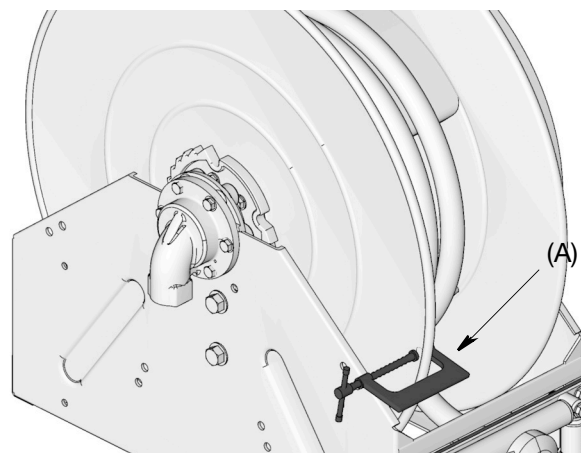

FIG. 13
3. Attach a c-clamp (A) to the reel spool as shown in FIG. 13 to help prevent the reel from unintentionally becoming unlatched and spinning freely.
- Securely attach a c-clamp (A) to the reel spool as shown in FIG. 13 to help prevent the reel from unintentionally becoming unlatched and spinning freely.